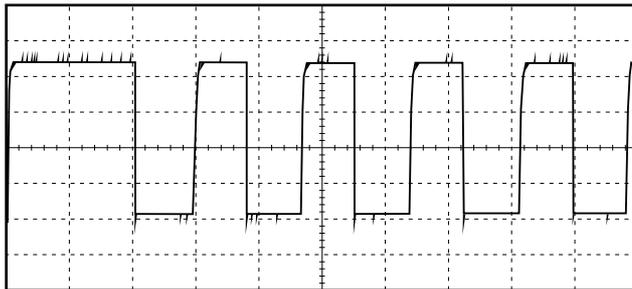

Figure 7. Code signal and start time.
- 15 Check that the signal is as in figure 7, i.e. a square wave with 50% duty cycle, > 0,85 Vp-p, at 3 ms after start.